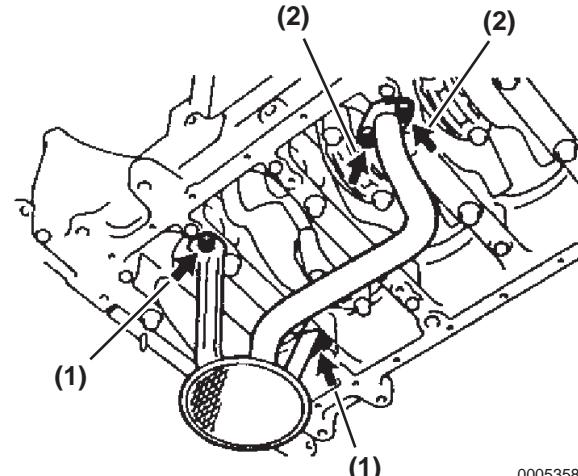

Figure 8-6
9. Remove the 2 bolts (Figure 8-6, (1)) and 2 nuts (Figure 8-6, (2)), and the oil strainer and gasket.